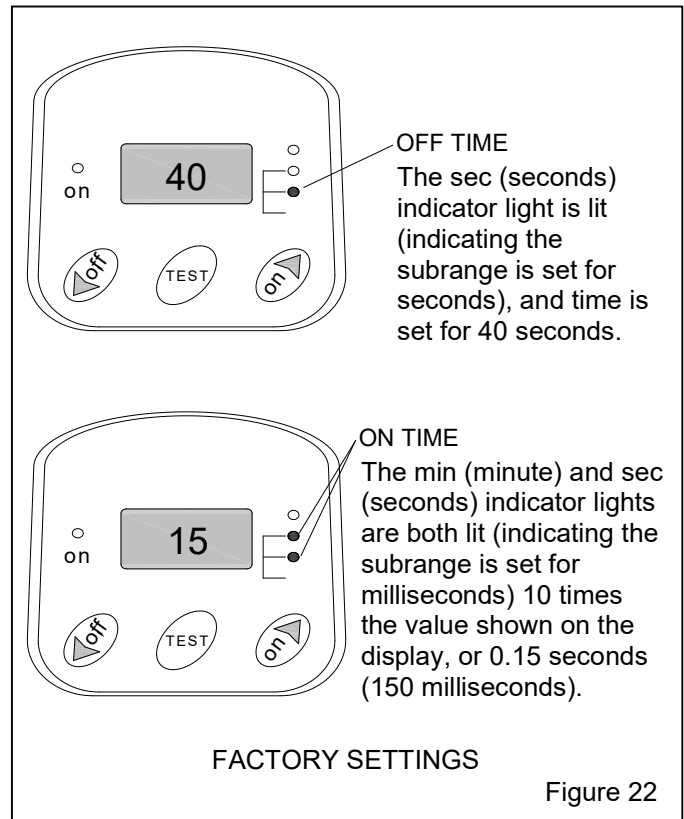

Figure 22
5.9.1 Operating principles Figure 22
5.9.1.2 The timer is factory set at 40 seconds OFF and 150 milliseconds (0.15 second) ON, as shown in Figure 22. Every 40 seconds, the cartridge is pulsed for 0.15 second.
NOTE: There is no need to change ON time. ON time is factory set for 150 milliseconds (0.15 second), as shown in Figure 22. If ON time is accidentally changed, reset it to 150 milliseconds as follows: